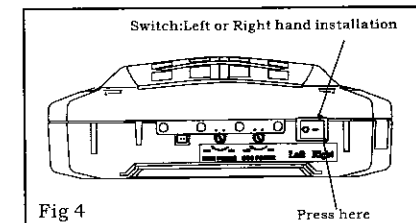

Fig 4
**RIGHT-hand side installation:** open the Light Cover underneath the opener and press the switch button down/on to the mark workRight side (See Fig 4).